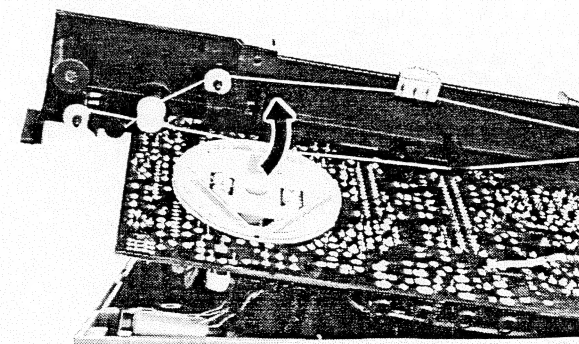

Figure 6.
2. Frame can be removed by inserting dial drum into the frame as illustrated without disconnecting dial cord. (See figure 6 and 7.)